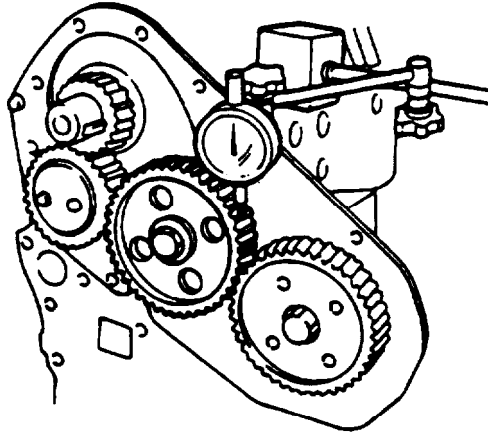

FIGURE 3-100. Measuring Timing Gear Backlash
- i. Measure timing gear backlash (refer to FIGURE 3-100) as follows:
- (1) Set a dial indicator on timing gear to be measured.
- (2) Hold gear to be checked and adjoining gear stationary.
- (3) Move gear tooth side to side in backlash. Record indicated backlash TIR. Standard TIR is 0.004-0.007 in. (0.10 to 0.17 mm), with a limit of 0.012 in. (0.30 mm).
- (4) If TIR exceeds limit, replace gear.